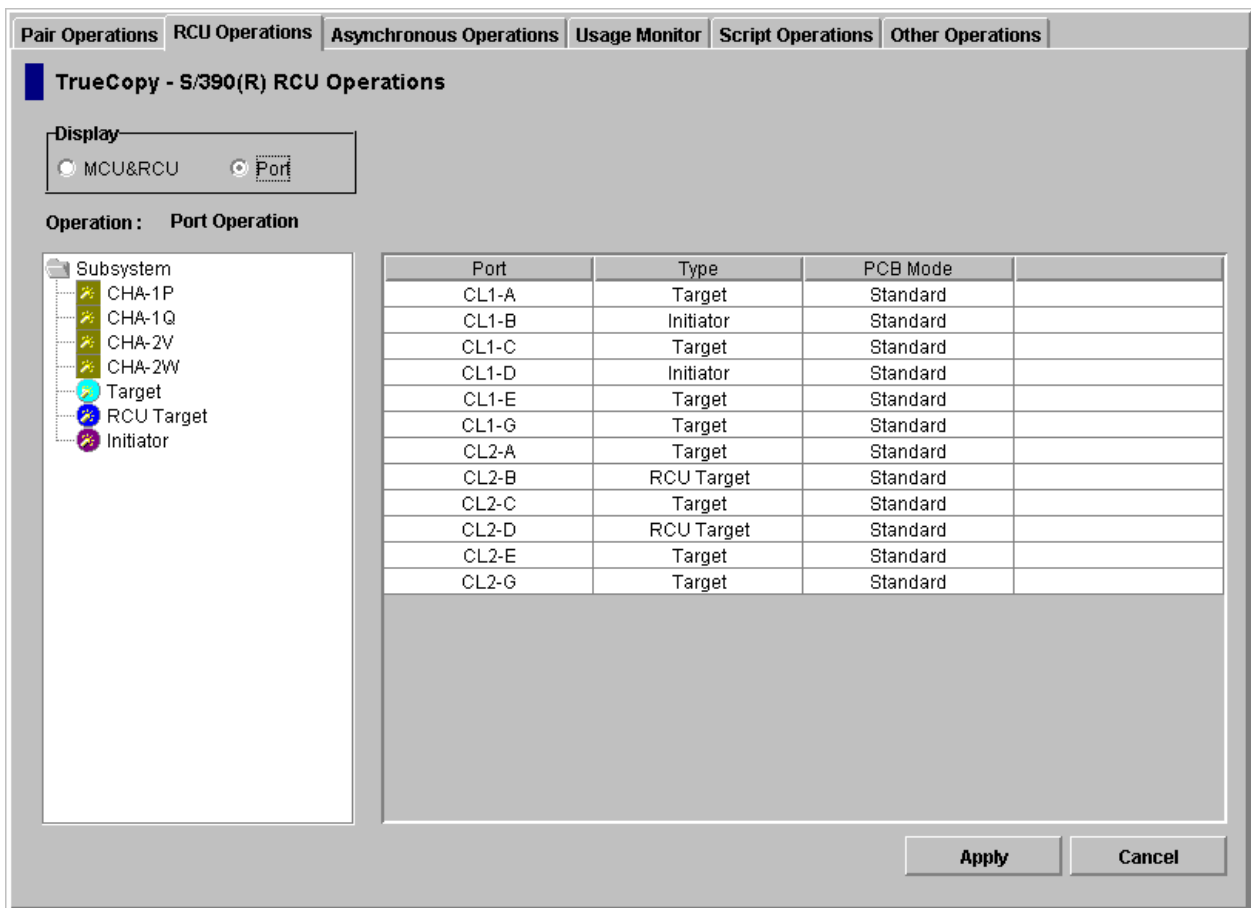

Figure 4.4 Port Display on the RCU Operations Tab (standard-speed, one port per row)
Select the subsystem to display all port information. Select the desired channel adapter to display the port information for that adapter (see Figure 4.4). Select the desired port type to display the port information for that port type. You can select only one channel adapter or port type at a time. The port information includes:
- 1 port per row (standard speed) (DKC-F460I-8HSE, -8HLE) (see Figure 4.4).